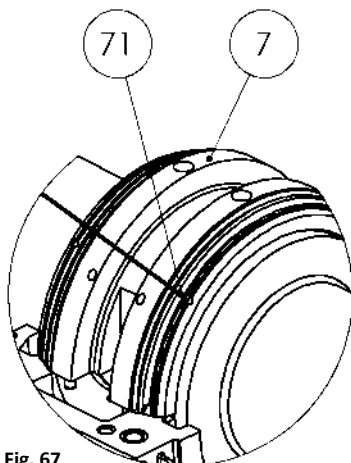

Fig. 67
- Place the lower part of the bearing shell (7) on the shaft seat.
- Insert the RTD rod through the hole of the bearing shell and then place the rod into the thrust pads hole (see fig. 67).